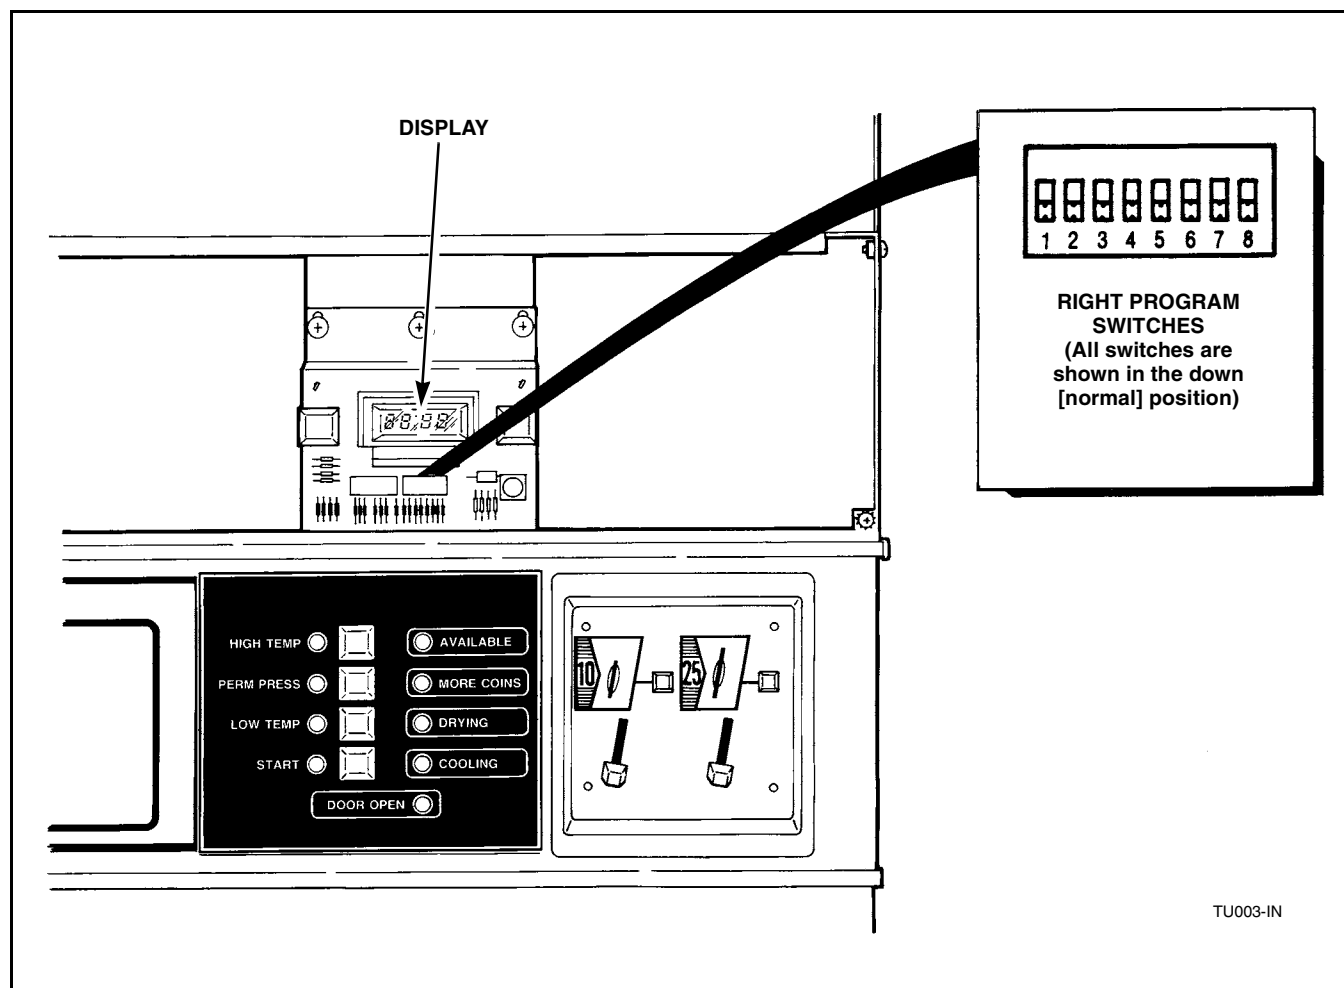

Figure 48
- b. Slide the right program switch levers 1, 4 and 6 up, refer to *Figure 48*, all the other switches must be down. This mode allows you to check out the push buttons, beeper and program code on the display.
- d. Slide the right program switch number 4 down and slide right program switch number 7 up. Refer to *Figure 48*. Switches 1, 6 and 7 must be up and all other switches must be down.